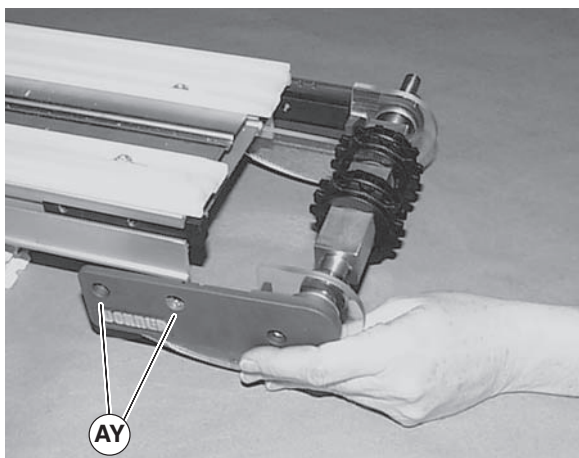

Figure 41
- Slide remaining head plate on to end of spindle and tighten fastening screws (Figure 41, item AY) to 60 in-lb (7 N-m).